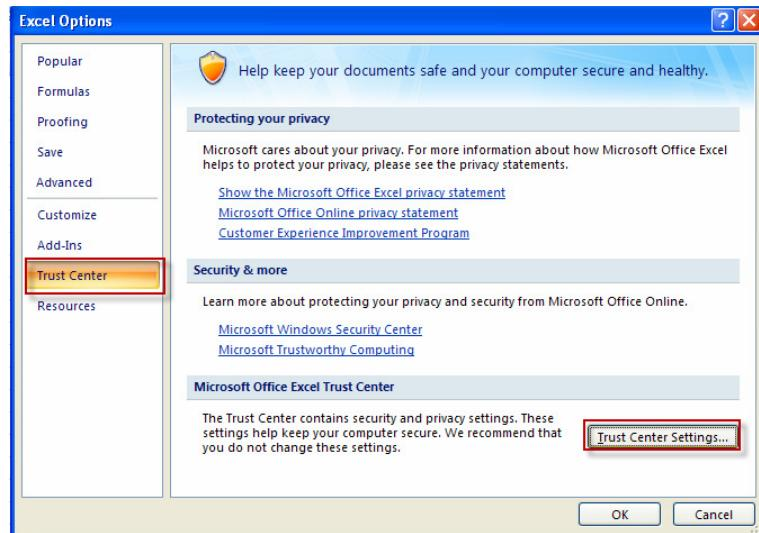

Figure 3: Accessing Trust Center Settings
2. Click Trust Center in the left column and click the Trust Center Settings... button as shown in Figure 3.